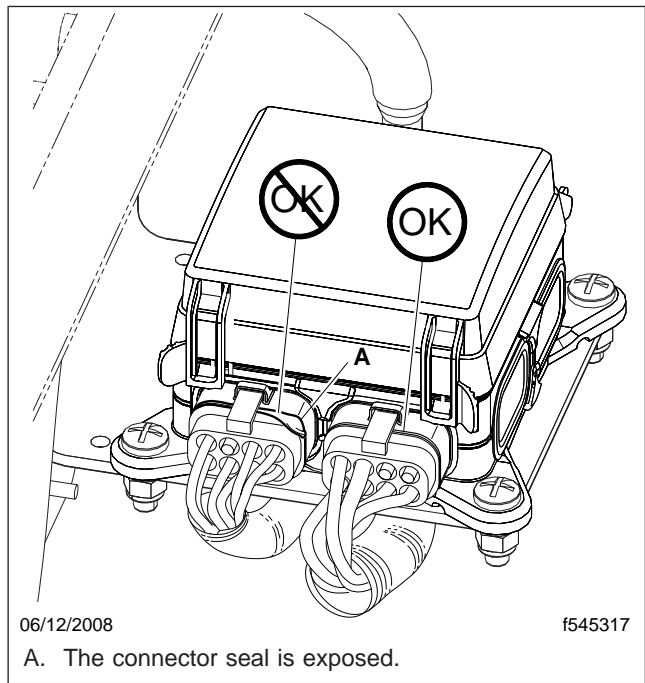

Fig. 3, Correct and Incorrect PDM Harness Connections
10. As needed, secure the harnesses and the connectors. The harnesses should be routed so the wires are not pulling the connectors out of the PDM or pulling against the wire seals. See Fig. 3.